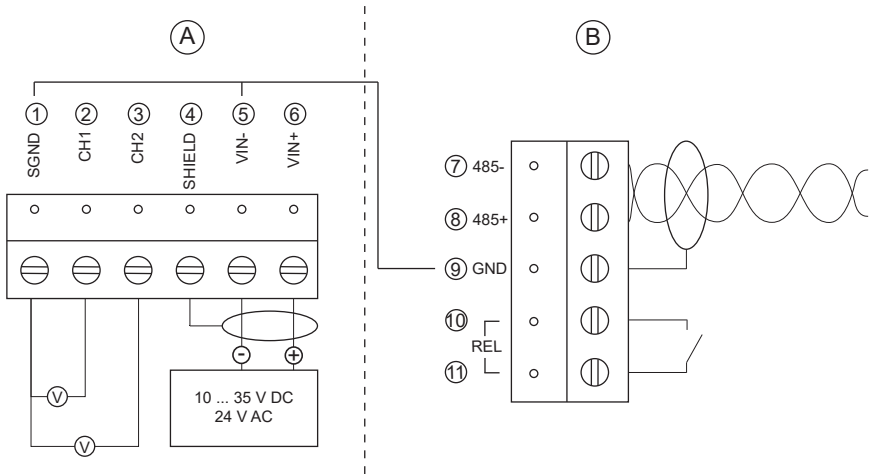

Figure 12 Power supply and voltage outputs (A), and serial communication and relay (B)
- 1) Numbers 1 ... 6 in the first column of the wiring table refer to section (A) and numbers 7 ... 11 to section (B) in Figure 12 \(page 23\).
- 2) There is an internal connection between numbers 1 and 5 on section (A) and number 9 on section (B).
- 3. Connect the wires as indicated in Figure 12 \(page 23\) and in Table 3 \(page 23\). Suitable wire size is 0.5 ... 1.5 mm² (20 ... 15 AWG).